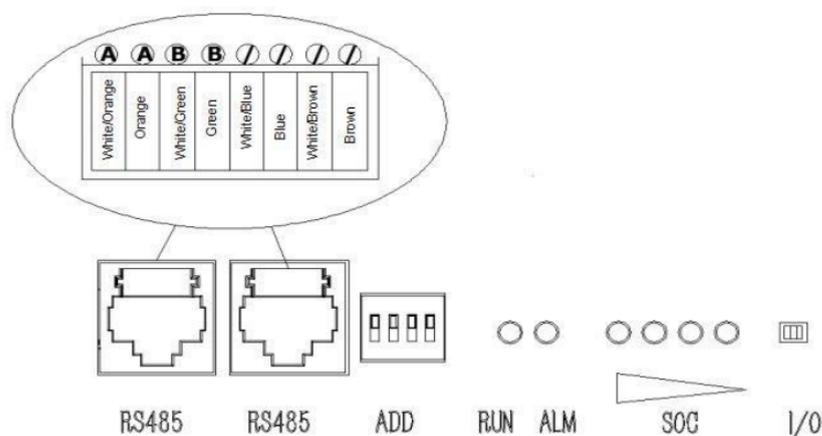

Figure 3-3 Definition of communication interface
- The interface definition is shown in Figure 3-3.